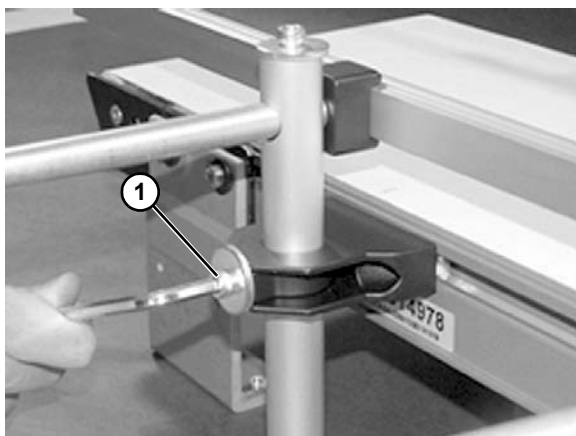

Figure 83
- Adjust rail height with lower screw (**Figure 83, item 1**).